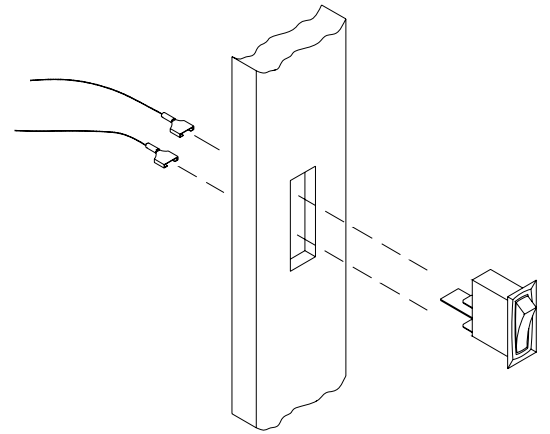
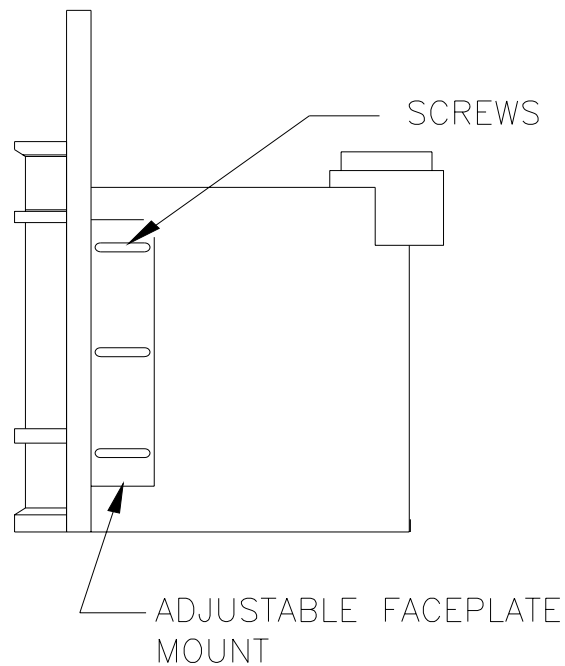

Figure 17a
Figure 17b
6. Insert the rocker switch into the rectangular slot of the trim and connect with the two (2) wires from the fan assembly. This switch will control the fan operation. (See Figure 17a).
8. Align the attachment holes and secure the faceplate to the sides of the unit with the four (4) black oxide Phillips head sheet metal screws. **NOTE: DO NOT ADJUST THE FACEPLATE DEPTH ON THE CORDOVA BAY.**
9. Adjust the faceplate mounts to the desired setting (See Figure 17b).